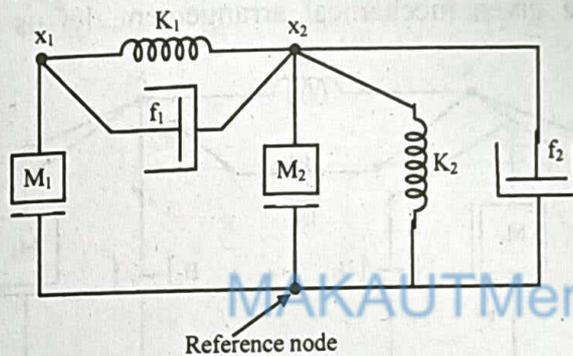

Fig: 1(a)
To get the mechanical network [fig. 1(a)],
**Step 5:** \$F\$ is applied to \$M\$. With this information mechanical network is drawn as shown in figure 1(a).